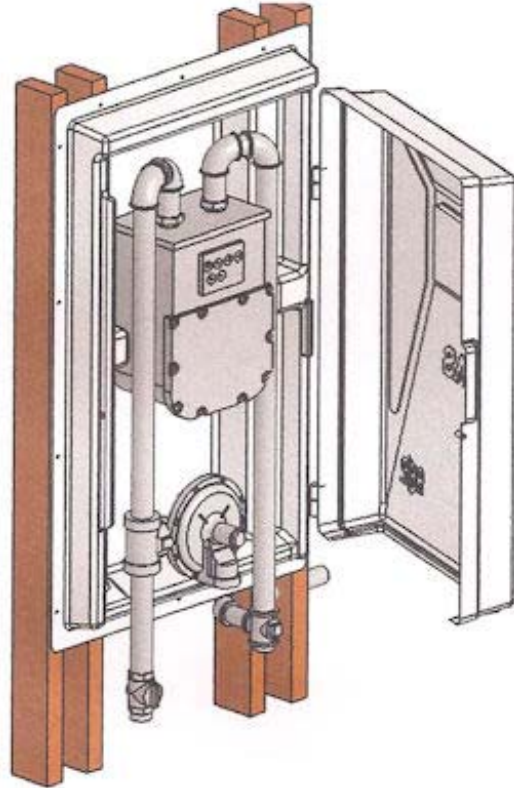

Figure 3
5. Locate the meter to align with the figure outlined on the rear of the cabinet and connect the inlet and outlet piping as shown in Figure 3 on Page 4.